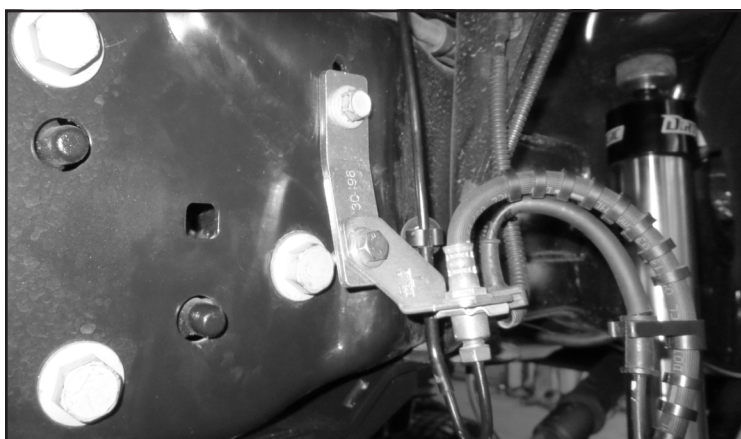

FIGURE 4 - STEP 8
8. Install FT30496 (Brake line bracket) to the factory brake line bracket using the supplied 5/16" hardware. Then, install the new bracket to the original mounting hole using the factory bolt. Torque to 25 ft-lbs. **SEE FIGURE 4**